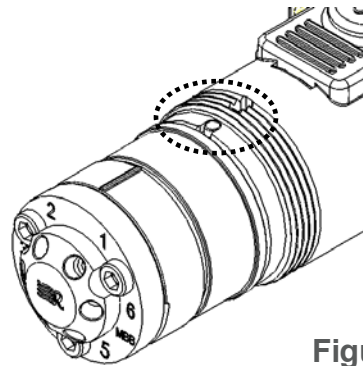

Figure 6
c. Next, rotate the Pod until Clocking Pin in the Pod is seated inside the Clocking Groove in the Actuator as shown in Figure 6.